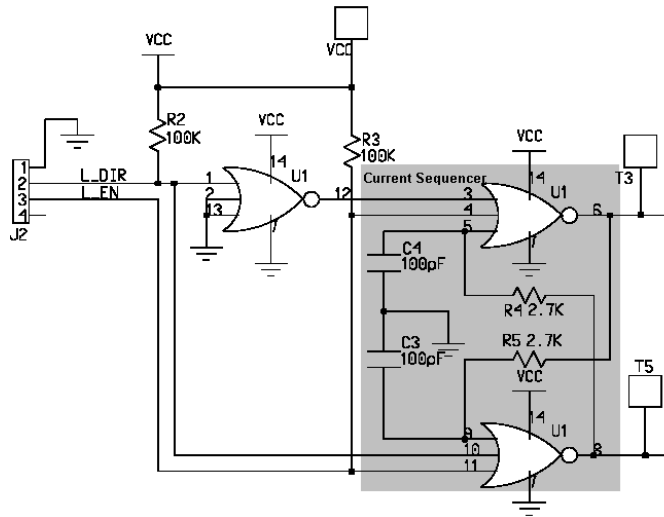
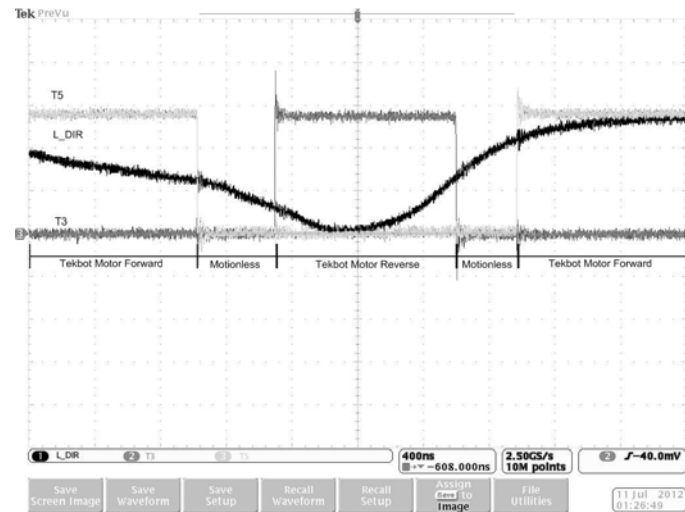

Figure 4.10: The Current Sequencer
Figure 4.11: Current Sequencer In Action
The current sequencer, figure 4.10 is used to protect the H-bridge. The digital logic provides a delay so the direction of the H-bridge current does not switch over too fast. As you can see in figure 4.11 as the direction input changes (dark line) from high to low there is a very quick period where the tekbot motors are not moving at all. The same thing happens again when the tekbot moves forward.
- What is the motor doing in figure 4.11.